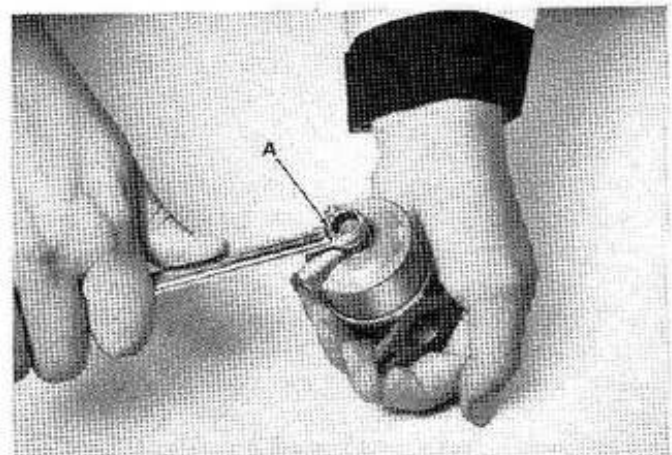

Figure 100. Retainer Screw Installation.
- i. Hold the carburetor exactly as illustrated in Figure 100. Using a box wrench, tighten the retainer screw (A) slowly until you feel the carburetor digging into the palm of your hand.